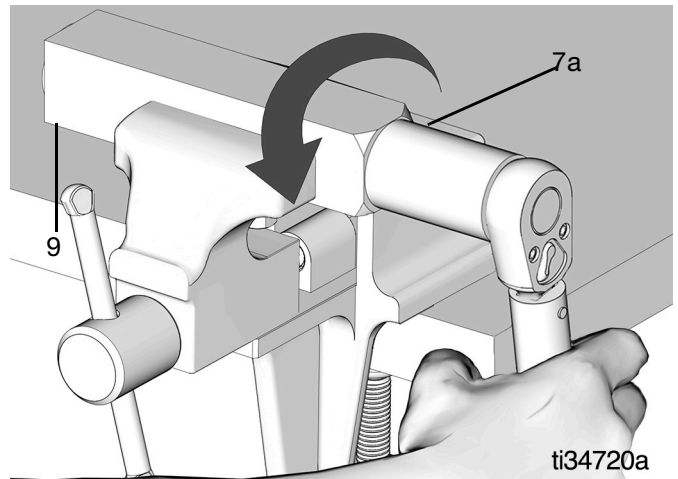

FIG. 5
- Use a deep well, 15/16 inch (24 mm) socket on packing hex (7a) (FIG. 5) to turn it counter-clockwise just until the piston assembly is loose enough to hand-turn.